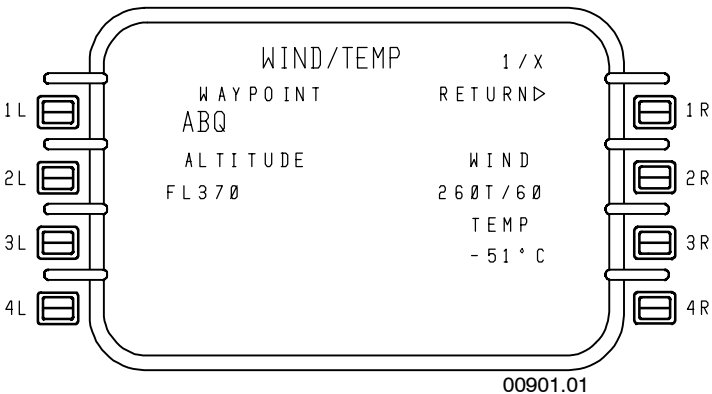

Figure 5-26
- **WIND/TEMP 1/X** – When the WIND/TEMP page is first selected, it displays the predicted altitude as well as the predicted wind and temperature at that altitude for the waypoint. This is shown in Figure 5-26.